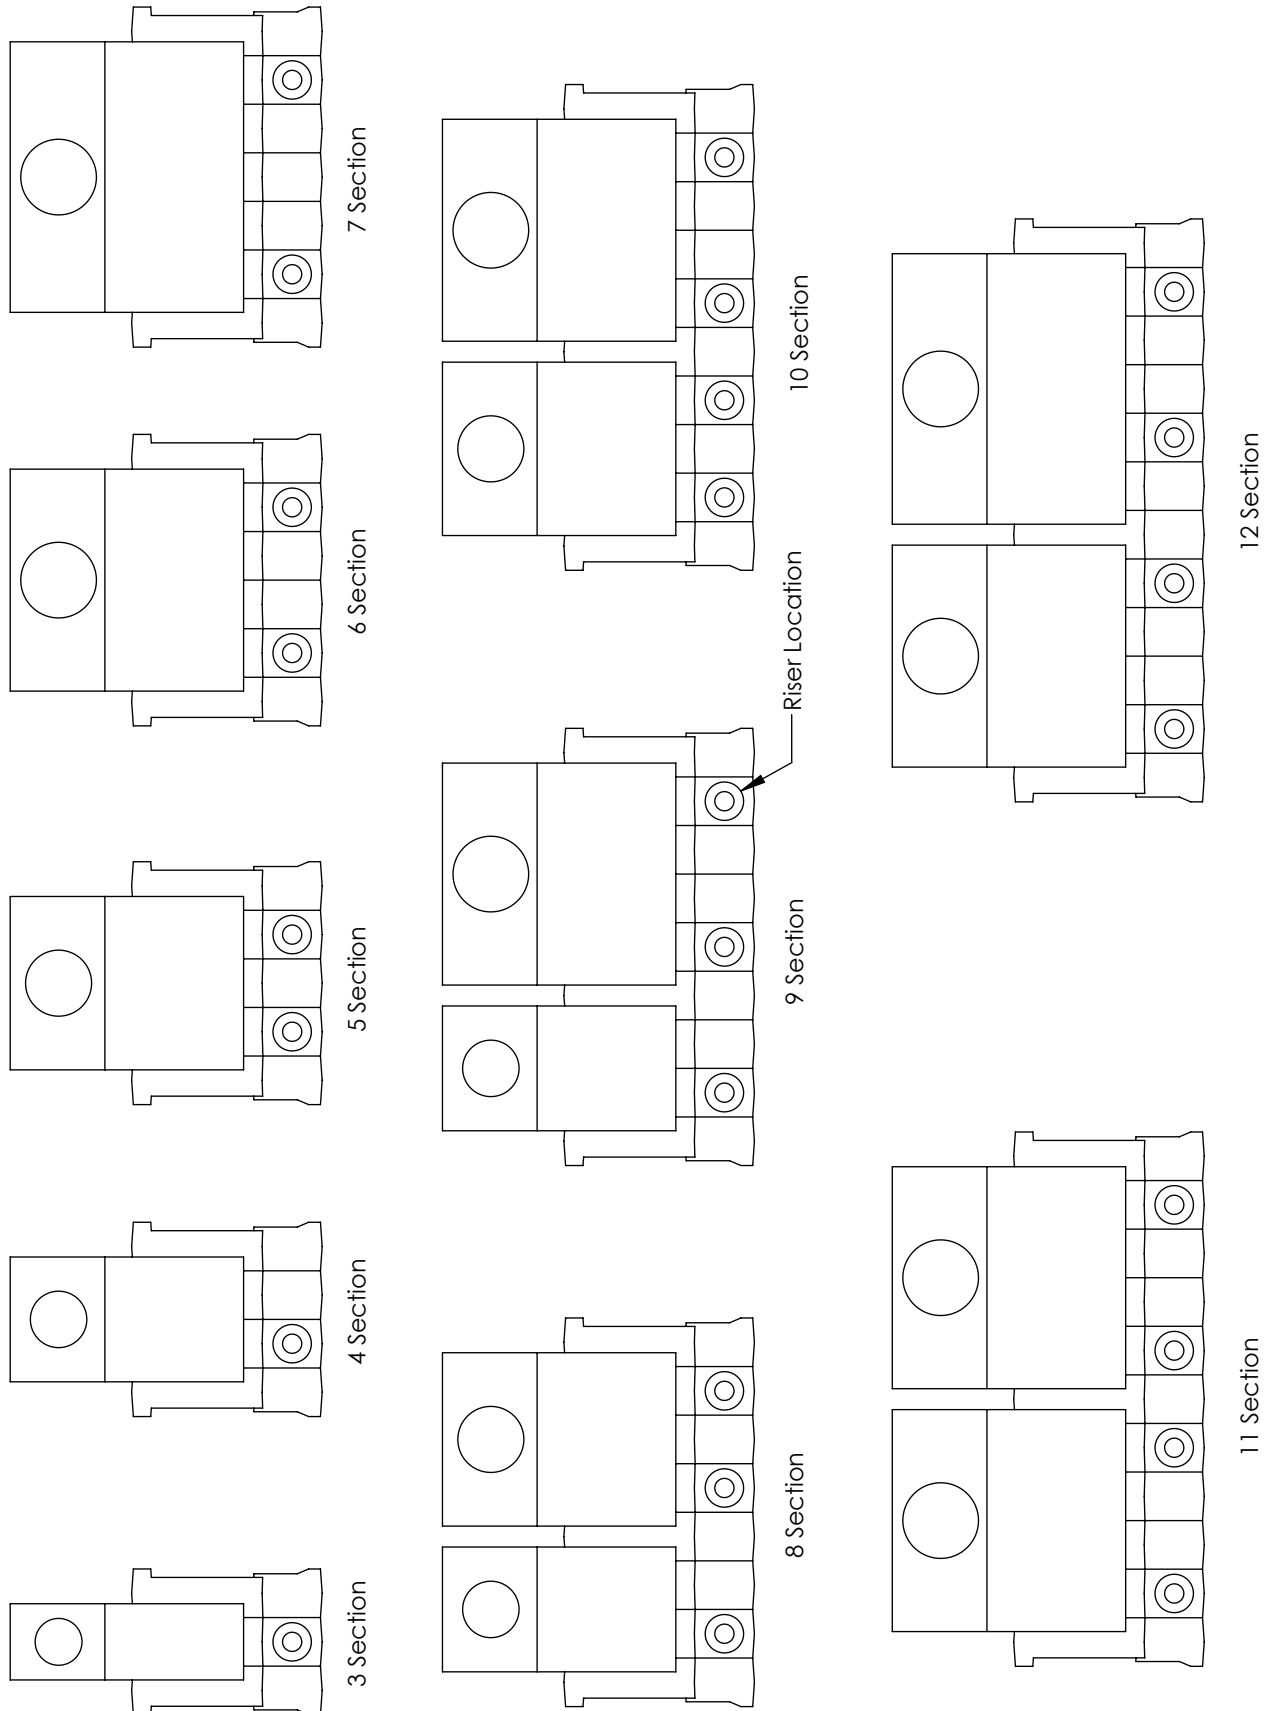

Figure 6-3: Arrangement of Sections and Canopies
NOTICE: Refer to Figure 6-3 for proper location of intermediate section with and without riser tappings.
2. See Figure 6-3 for canopy locations.